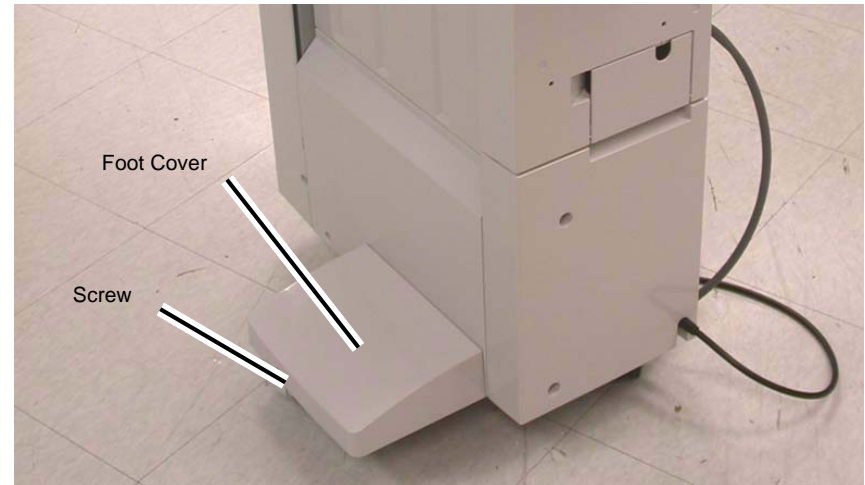

Figure 1 Removing the Foot Cover
3. Remove the Screw (1) (Figure 1).